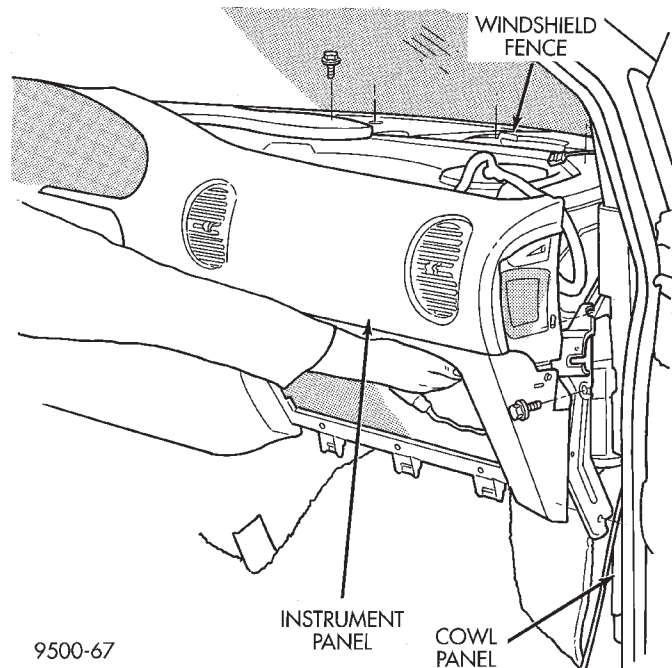

Fig. 30 Passenger Side Instrument Panel
(22) Remove the nut holding gear shift cable bracket to the instrument panel frame.
(23) Remove the bracket from the instrument panel.
(24) Remove the screw holding hood release handle to the instrument panel.
(25) Remove the bolt holding the hood release handle to the instrument panel.
(26) Position the hood release handle out of the way.
(27) Remove the instrument panel top cover.
(28) Disconnect the wire connector from the HVAC wire harness behind the glove box area.
(29) Remove the bolts holding the instrument panel frame to the brackets on cowl side panels (Fig. 30) and (Fig. 31).